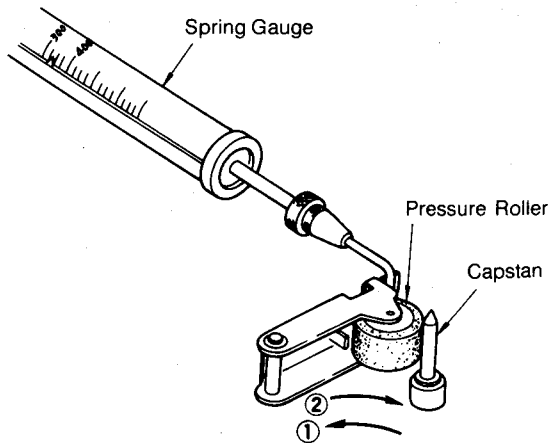

FIG. 12
2. Hook spring gauge to arm of pressure rollers, as shown in Fig. 12.